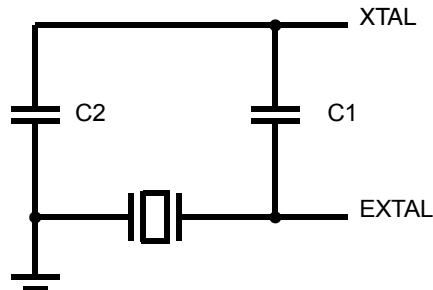
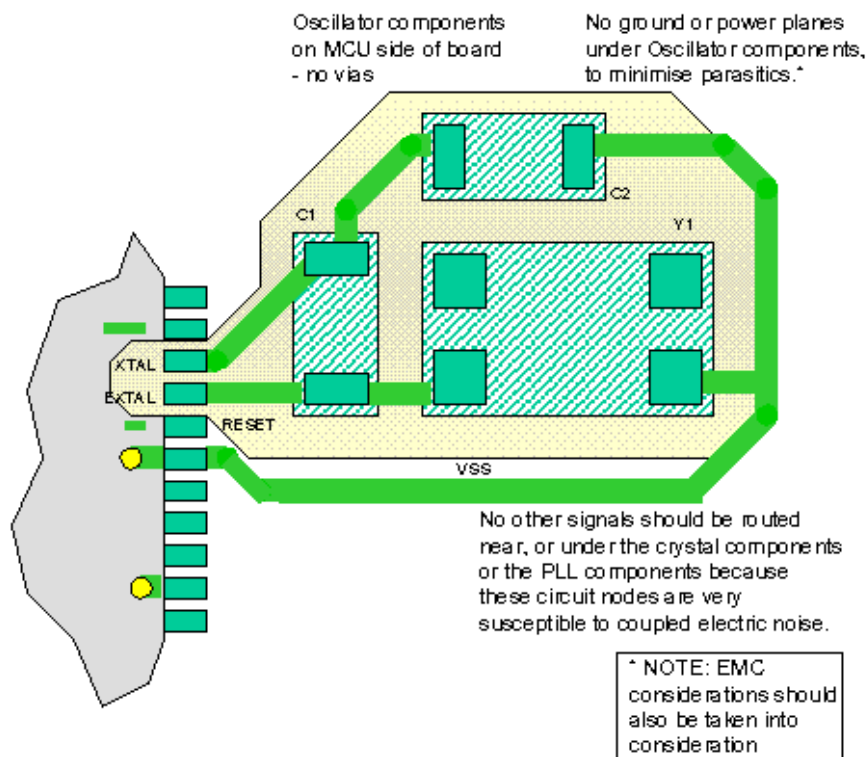

Figure 4. Schematic of External Components
Figure 5. Recommended PCB Layout
- The external capacitor values were:  $C_1 = 10$  pF and  $C_2 = 33$  pF. (To see how the external capacitors fit into the circuit board layout, see Figure 4.)
This Colpitts Oscillator is very sensitive to the external components on the PCB. The following guidelines provide some necessary information on the PCB layout. The external component connection is shown in Figure 4 and the layout on PCB is shown in Figure 5 on page 6.